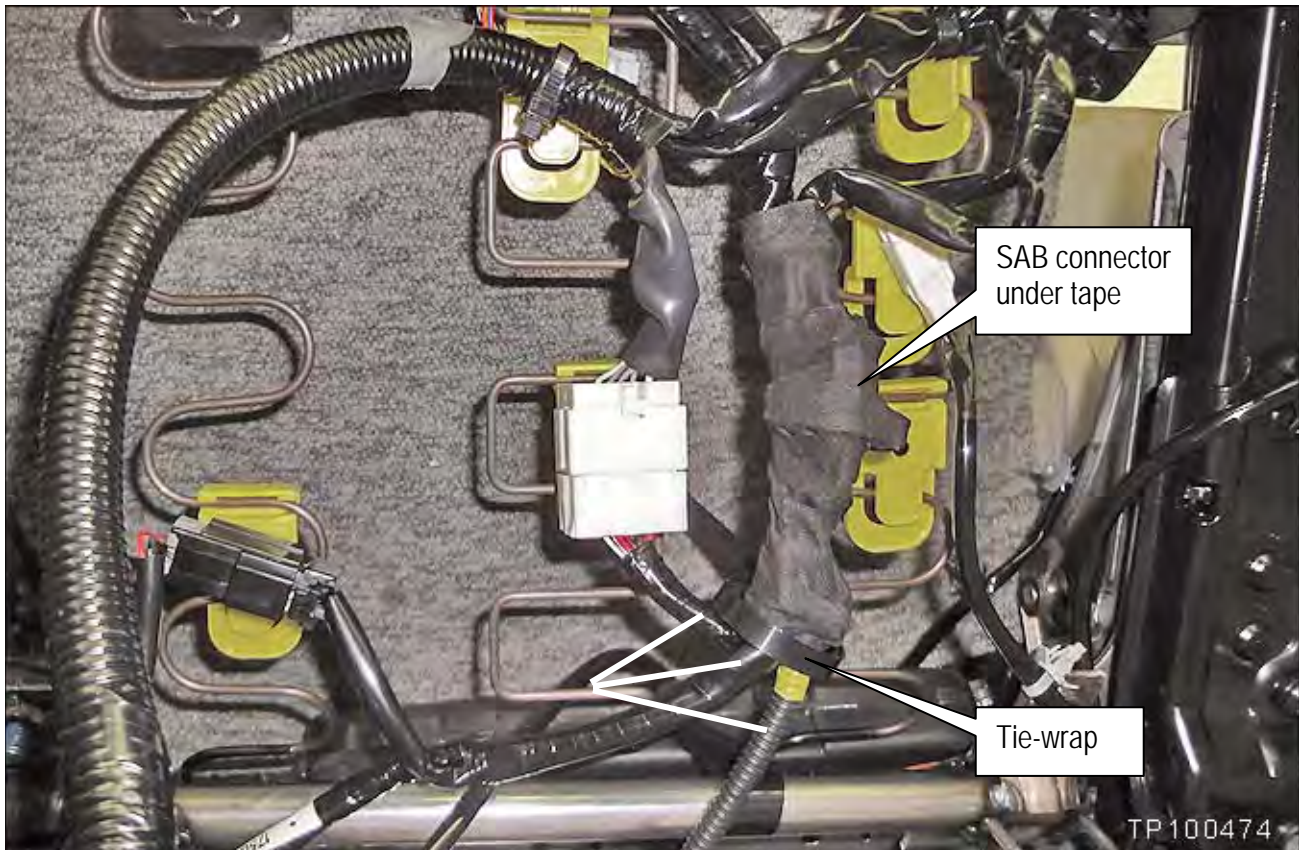

Figure 1c
1. Look under the seat and locate the SAB connector (taped to harness). See Figure 1c.
2. Cut / remove the tie-wrap shown in Figure 1c.